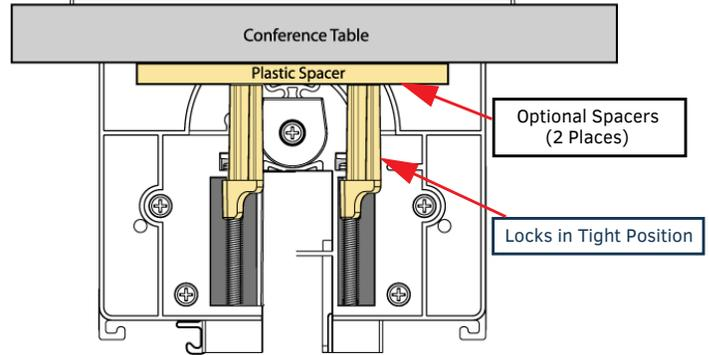

FIG. 4 OPTIONAL SPACER AND MOUNTING TABS DEPLOYED
**Note:** For surfaces less than 3/4" (19mm) thick, use the supplied plastic spacers by fixing them to each end of the cutout using the supplied double sided tape (FIG. 4).